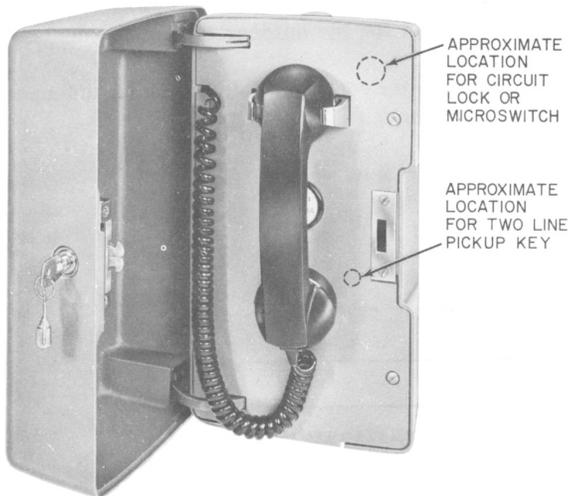

Fig. 4—526A Telephone Set Installed in 526A Housing
**2.09 526A Telephone Set Base (Fig. 4):**